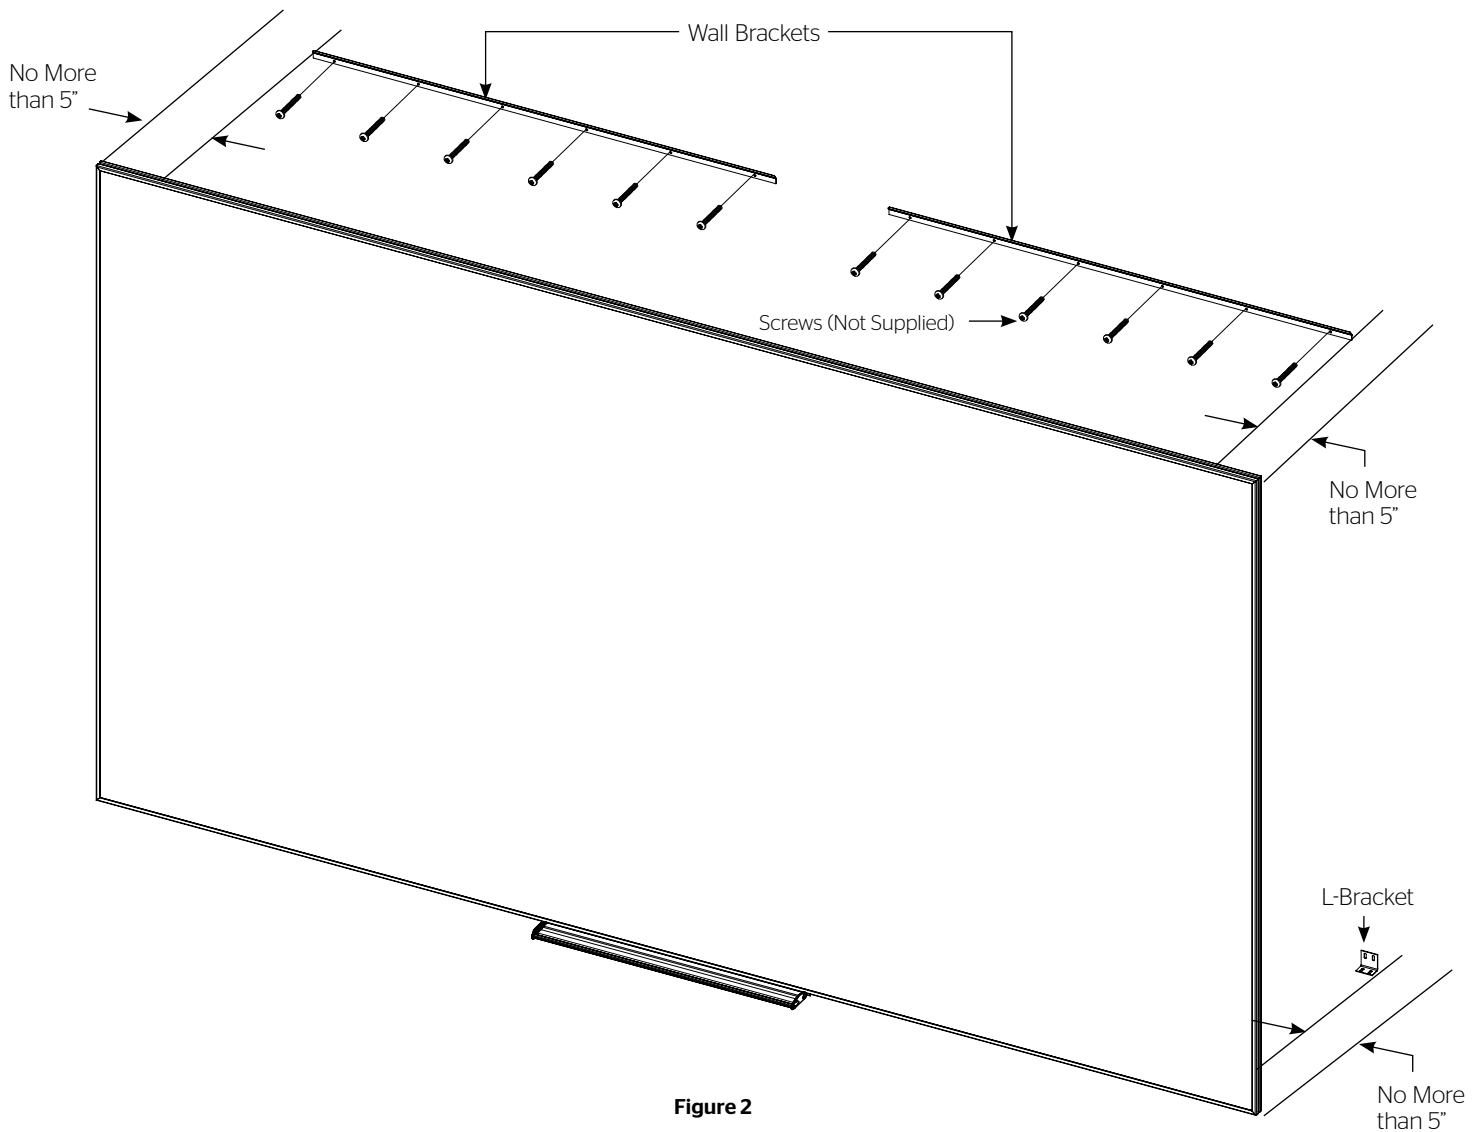

Figure 2
**NOTE:** The screen is shipped with two wall brackets. Screens in widths of 88" and below receive (2) 28" wall brackets. Screens above 88" in width receive (2) 44" wall brackets. Use appropriate mounting hardware for the wall type and to accommodate for the screen's hanging weight (Figure 2).
1. Secure the two wall brackets to wall studs at the desired height. The outside edge of each wall bracket must be no greater than 5" away from the left and right edges of the frame. You will need at least 1" clearance above the drilled holes to hang the screen (Figure 2).
2. To install the (2) L-brackets, you must measure the overall height of the screen frame and subtract 1½". Using that dimension, measure down from the top edge of the wall brackets and mark the wall for two screw holes. The outside edge of each L-bracket must be no greater than 5" away from the left and right edges of the screen frame (Figure 2).